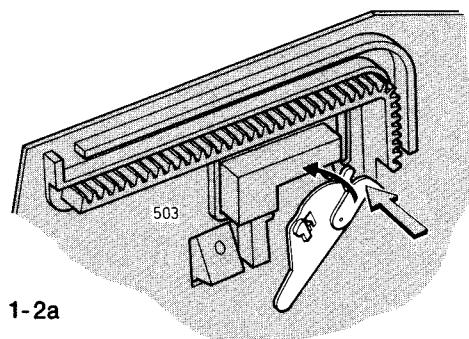

Fig. 1-2a
Reassemble in reverse order having made certain that the deck is in the eject position, and wriggle the lever pos. 230 through stop toward you (Fig. 1-2a).